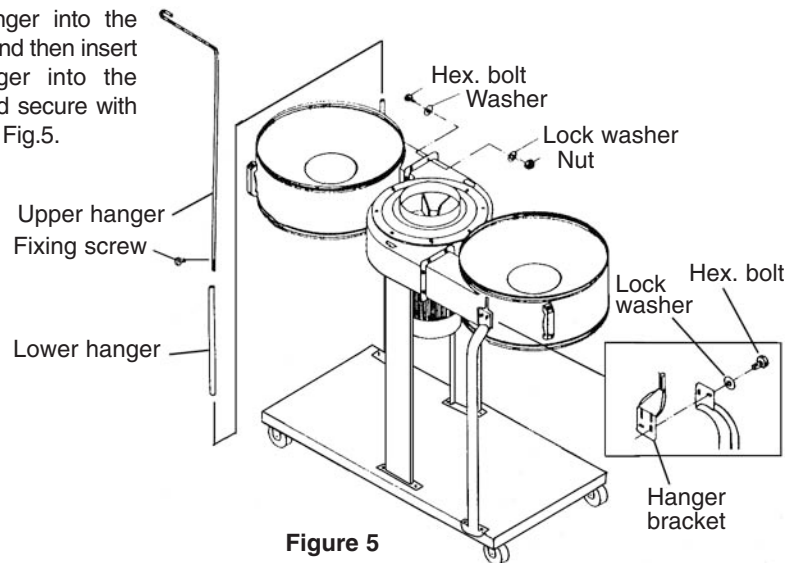

Figure 5
- 1) Fix the housings to the impeller housing using hex. bolts, washers, lock washers and hex. nuts. See Fig.5.
- 2) Now the support legs must be fixed to the housings but don't forget the hanger brackets. The hanger brackets must be placed between the housing and the support leg, see Fig.5. Fix them using hex. bolts and lock washers.
Insert lower hanger into the hanger bracket and then insert the upper hanger into the lower hanger and secure with fixing screw, see Fig.5.